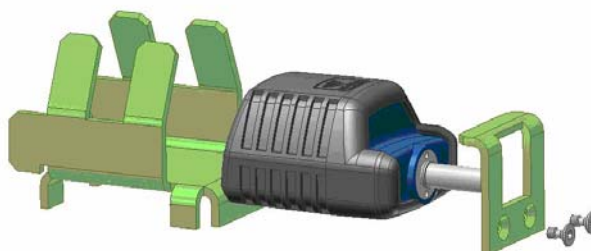

Figure 3-2. Temporary Installed Seal
6. After the units cool off, use the micro-reader to verify that the seal is functional; temporarily install the seal as illustrated in Figure 3-2 and perform a reading.
10. Install the seal inside the seal-housing, fasten the screws, and secure the screw with appropriate thread locking adhesive (refer to Figure 3-2).